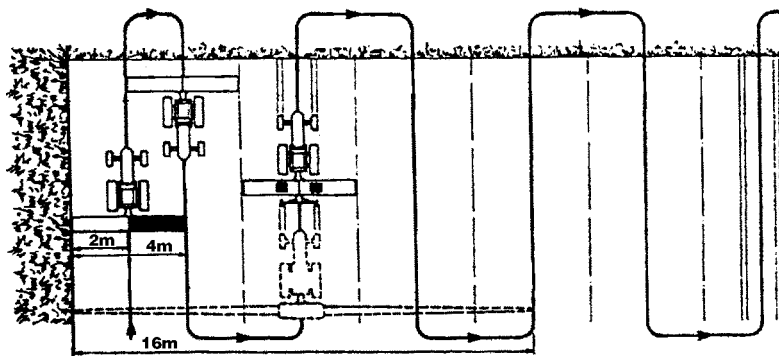

Fig. 29
b) Uncoupling half the seed drill width (fig. 29).